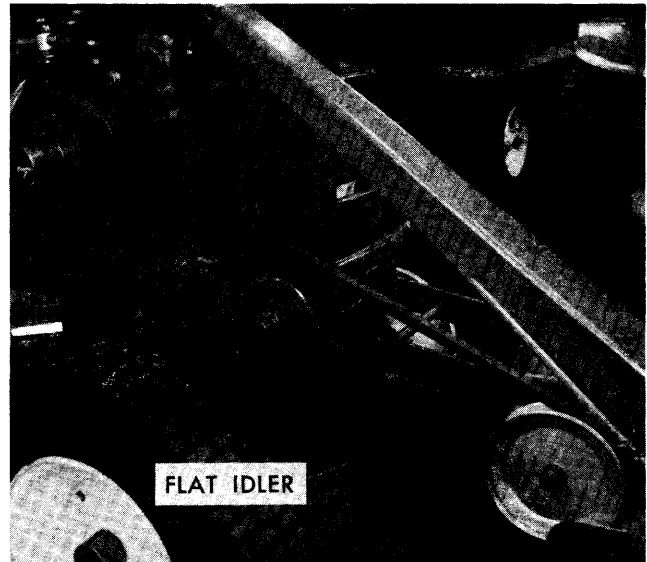

Figure 2
6. Raise the snow thrower to transport position. Fit the drive belt in the outer groove of the PTO clutch. Slip the lower strand of the belt between the belt guide bracket (11) and idler pulley (10) and attach the pulley to the idler arm (6) with the pre-assembled bolt and nut. Position the belt guide bracket perpendicular to the idler arm and tighten the nut securely.
7. Wrap the V-belt (29) around the drive pulley (16) and slide it hub-first on the drive shaft. Do not tighten the set screws at this time.
8. Hook spring (9) between the idler arm and the hole provided below the drive shaft in the blower frame. Rotate the idler arm assembly against spring tension and bring the lower belt strand over the flat idler as shown in figure 2. Align the drive pulley with the idler pulleys and tighten both set screws.